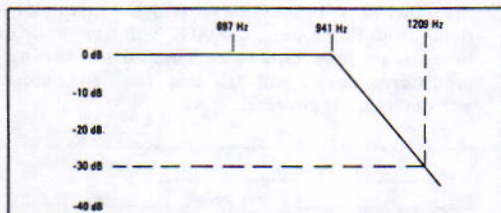

Figure 7. Low-Pass Filter Specification — Keyphone Application
4. Low-Pass Filter — attenuation at 1209 Hz: 30 dB typical. Such a filter can be achieved using a passive LC design or an Active RC network. Insertion loss is typically 6 dB and ripple ± 1 dB. Several manufacturers have designed filters specifically for this application, although the frequency roll-off varies from one product to another. The response curve suggested for the keyphone application is shown in figure 7.